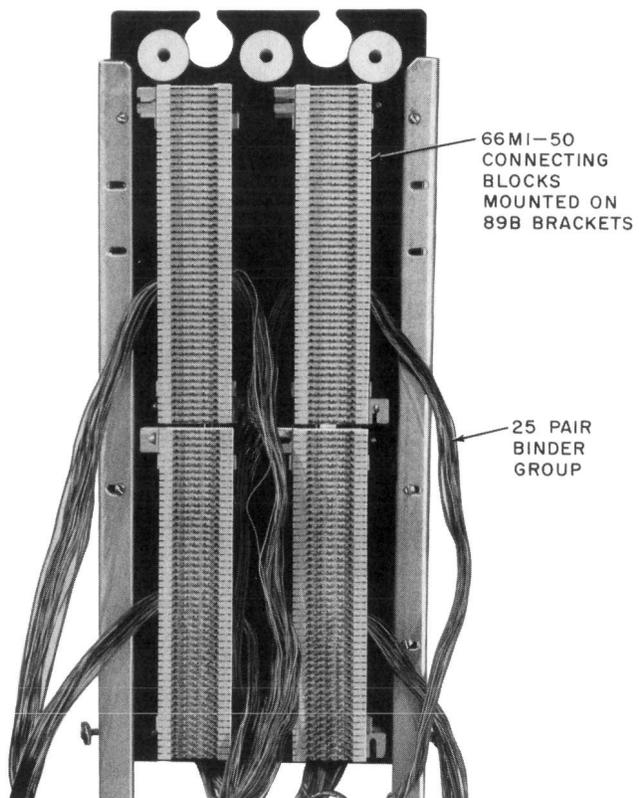

Fig. 23—66M1-50 Connecting Blocks Placed on 89B Brackets (LG-10/43)
10.09 Place the 25-pair binder groups behind the 89B brackets, then install the 66M1-50 connecting blocks on the 89B brackets (Fig. 23).